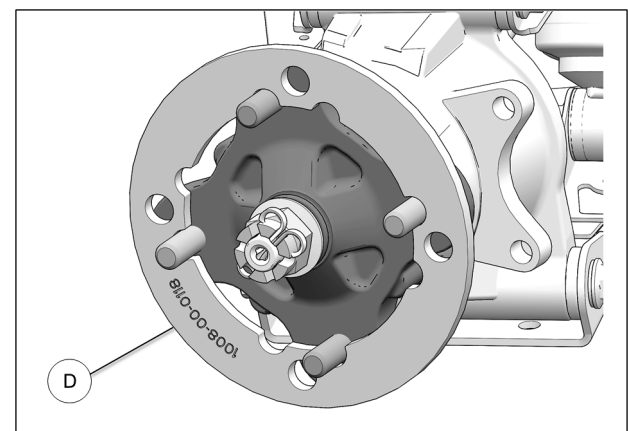

Fig. 18
7. Install wheel spacers (D) on rear hubs. See Fig. 18